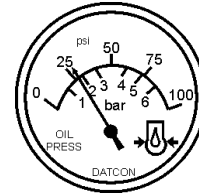

Figure 57. Oil Pressure Gauge
14. The engine oil pressure gauge (Figure 57) will indicate the oil pressure (kg/cm2) of the engine. Under normal operating conditions the oil pressure should be approximately 25 psi.